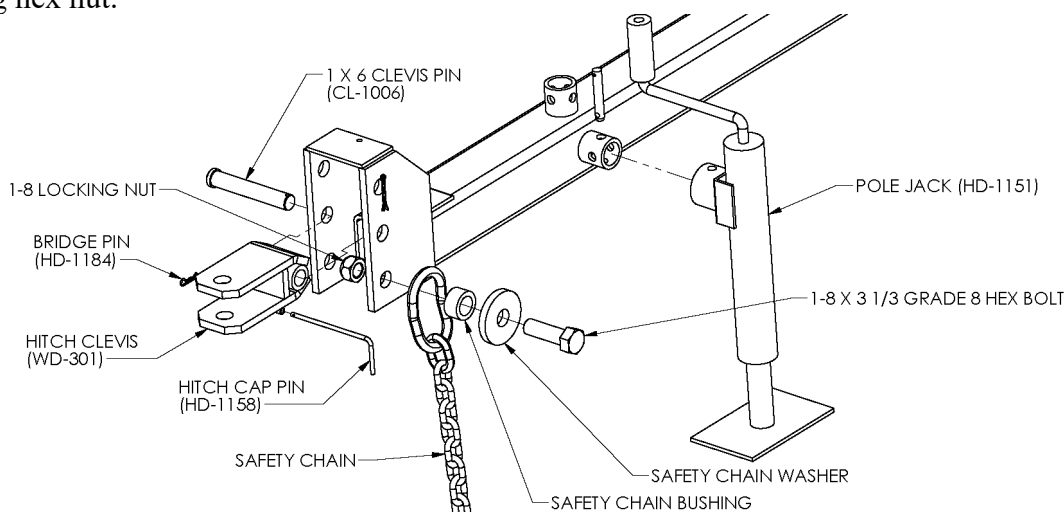

Figure 4
7. Attach the pole jack to the hitch pole. Refer to Figure 4. A round tubular stud is welded to the side of the hitch pole. A matching tubular stud on the jack fits over the first stud. The jack is held in place with the hitch pin that is attached to the jack.